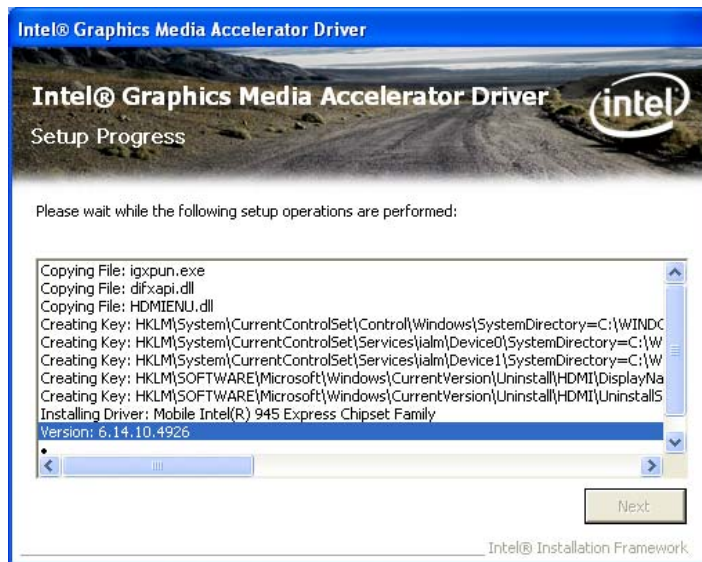

Figure 6-15: VGA Driver Setup Operations
Step 13: Setup Operations are performed as shown in Figure 6-15.